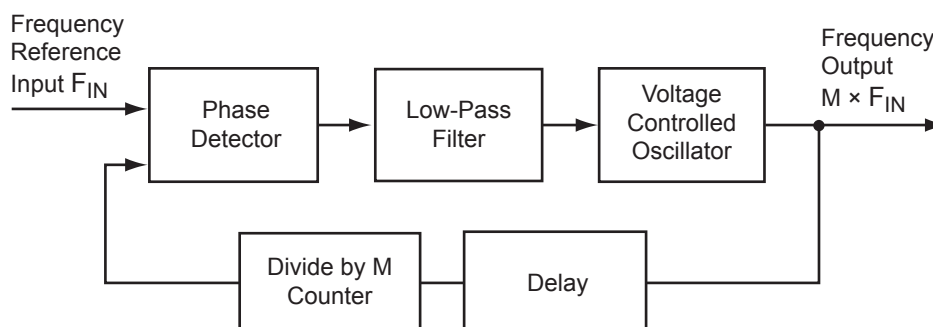

Figure 5-19 • Simplified PLL Core with Feedback Divider and Delay
This section briefly describes the basic principles of PLL operation. The PLL core is composed of a phase detector (PD), a low-pass filter (LPF), and a four-phase voltage-controlled oscillator (VCO). Figure 5-19 illustrates a basic single-phase PLL core with a divider and delay in the feedback path.
Consider Figure 5-19 with the feedback path bypassing the divider and delay elements. If the LPF steadily applies a voltage to the VCO such that the output frequency is identical to the input frequency, this steady-state condition is known as lock. Note that the input and output phases are also identical. The PLL core sets a LOCK output signal HIGH to indicate this condition.